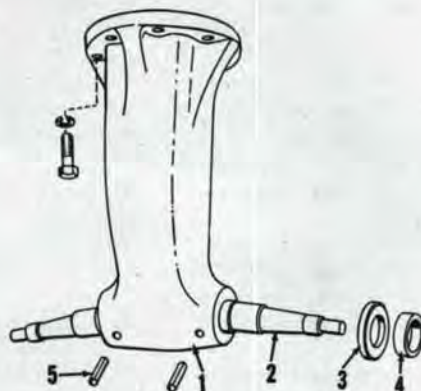

Fig. 3—Dual wheel tricycle spindles (2) can be removed after removing groove pins (5).
**4. R&R PEDESTAL.** Raise front of tractor, then remove cap screws retaining pedestal (1—Fig. 3) to steering gear shaft.